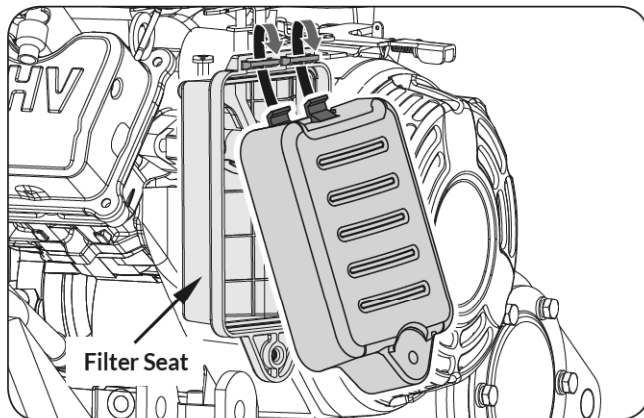

Figure 2b
2. Slide the two tongue of the filter cover into the slots of the filter seat. (See **Figure 2b**)